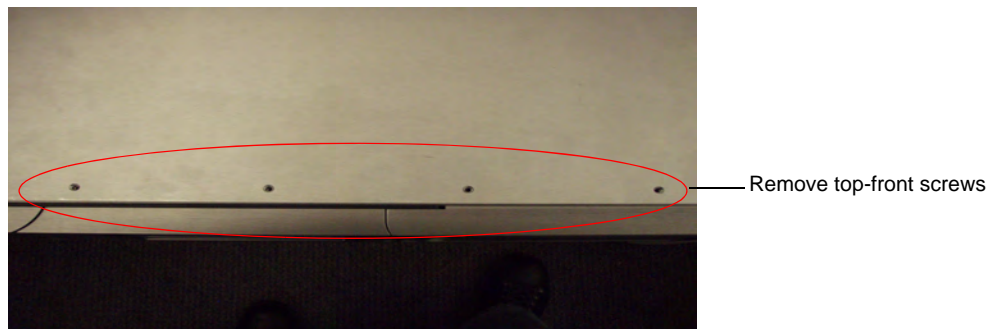
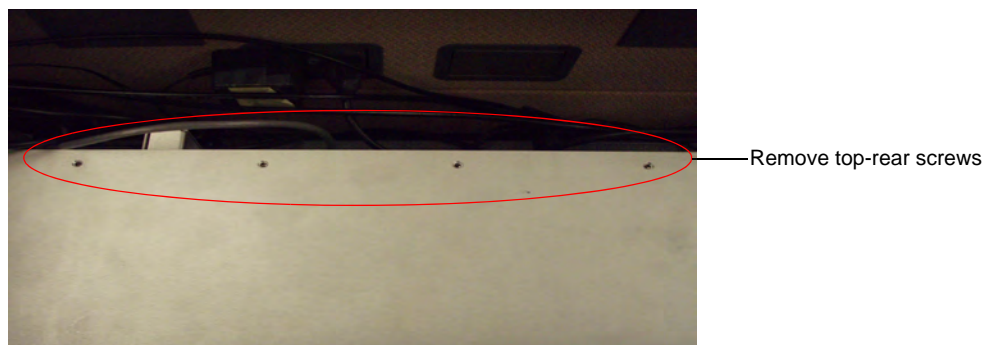

Figure 2 Remove Top-Front Screws
Figure 3 Remove Top-Rear Screws
3. Remove the top four screws on the front of the lid, as shown in Figure 2, then remove the top four screws on the rear of the lid, as shown in Figure 3.